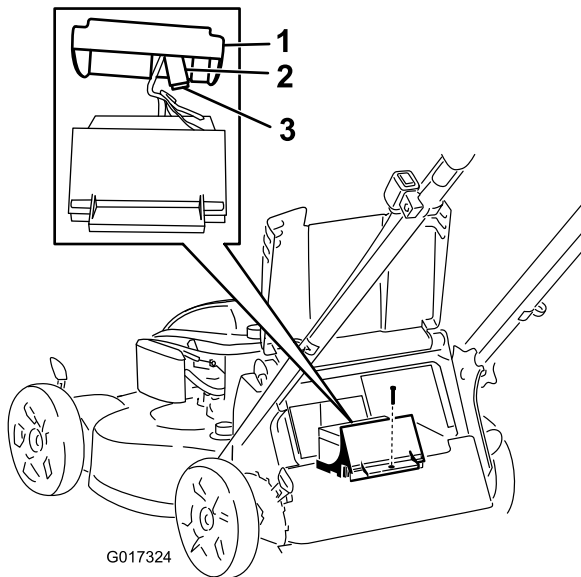

Figure 35
3. Remove the screw that secures the battery compartment, pull out the battery, and locate the fuse (Figure 35).
4. Replace the fuse in the fuse holder (Figure 35).